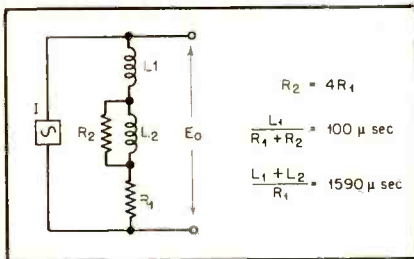
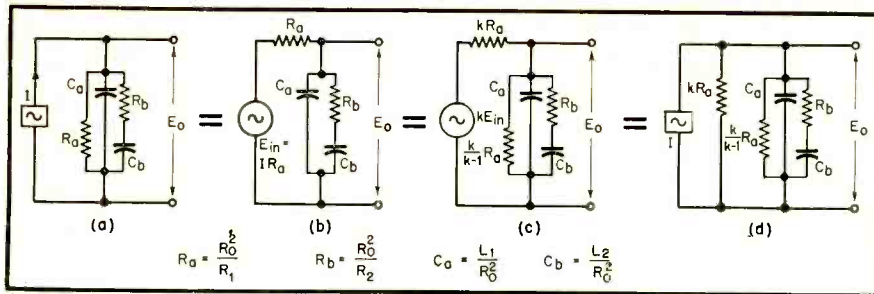
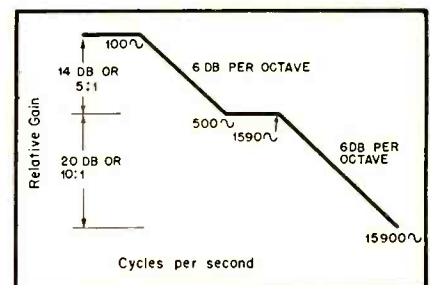

Fig. 5. Columbia LP pre-emphasis network.
Fig. 6. Playback network for LP records.
Fig. 7. Asymptotes to LP playback curve.
The frequency response curve we intend to create is that derived from the inverse of the Columbia preemphasis network¹ in Fig. 5. Its inverse with respect to an arbitrary resistance R_o is shown at (A) in Fig. 6 together with three equivalent circuits having the same response. Figure 7 shows the straight-line approximation to the play-back response curve.
back at all frequencies the gain would be simply Z_2/Z_1 and we could get the required response by making Z_2 the network of (A), Fig. 6. In this case we intend to use only about 6 db of voltage feedback at low frequencies and so the network will have to be modified. We shall see that the response obtained with a limited amount of feedback is the same as that obtained with infinite feedback when a resistance is shunted across Z_2 . This effective shunt resistance may be
Next we proceed to reduce the complete stage, which can now be drawn as at (A), Fig. 3, to its approximate equivalent, (E). Comparing (E) of Fig. 3 and (D) of Fig. 6, we see that they can have the same frequency response if Z_1 is a resistor and Z_2 is a four-element resistance-capacitance network. If for the moment we disregard the factor $[Z_o/A_1Z_1]$ (E) of Fig. 3, which simply determines the impedance level of the entire circuit without affecting the open-circuit response, we see that the gain-versus-frequency is directly proportional to the combined impedance of Z_2 in parallel with the resistor $(A_1+1)Z_1$.
To determine the loading and direct feed-through we examine the response curve, Fig. 7, and find the minimum value that Z_1+Z_2 can reach within the audible range. Since we have decided that the gain reduction at low frequencies is to be 6 db, this means that at 15,900 cps the gain will be down 34 db more or only 0.31. At this frequency and above, Z_2 has become so small that the
The effective parallel resistance $(A_1 + 1)Z_1$ across Z_2 is now identified with the resistance KR_a of (D), Fig. 6. It is convenient to set this value at 12 megohms, making Z_1 equal 374,000 ohms. Since we want to have 6.02 db of gain reduction at extreme low frequencies, amounting to 5.80 db feedback and 0.22 db loss due to input voltage division between Z_1 and $(Z_2 + Z_0)$, Z_2' must be just half its no-feedback value, or 6 megohms. This means that Z_2 , which approaches the resistance $KR_a/(K - 1)$ at low frequencies, must be 12 megohms. Putting together the relationships $KR_a = 12$ megohms and $KR_a/(K - 1) = 12$ megohms determines the value of R_a as 6 megohms. The remainder of the network can be found from the relationships in Fig. 5 and (A) of Fig. 6.